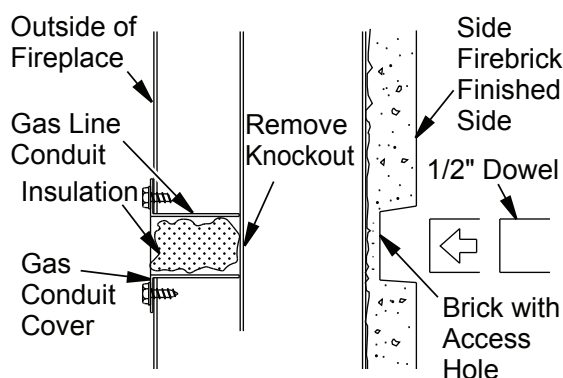

Figure 15 - Gas Line Access
1. Remove knockout indentation on refractory or firebrick wall located above refractory hearth floor. Knockout indentation must be firmly tapped with any solid object such as a 1/2" dowel until it is released. Remove fragmented portions of refractory (see **Figure 15**).